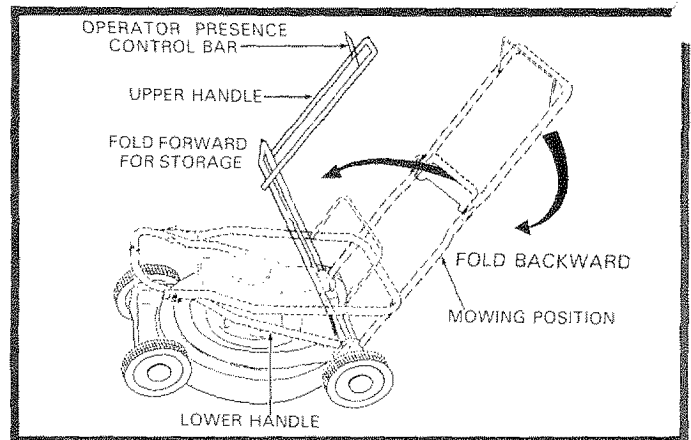

FIG. 19
- You can fold your Lawn Mower Handle for storage as shown in Fig. 19.
**IMPORTANT:** WHEN FOLDING THE HANDLE FOR STORAGE OR TRANSPORTATION, BE SURE TO FOLD THE HANDLE AS SHOWN IN FIG. 19. IF YOU FOLD THE UPPER HANDLE SECTION THE WRONG WAY, YOU MAY DAMAGE THE CONTROL CABLES.